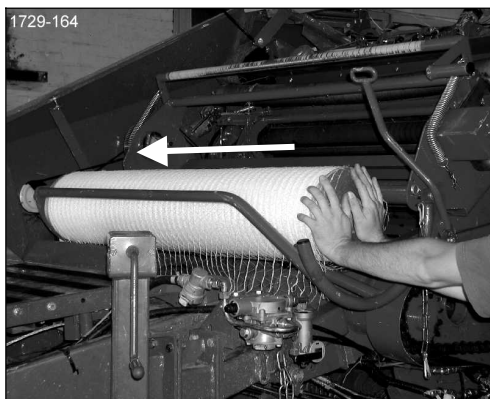

Figure 41
- ❑ (Figure 41) Slide net roll until the lock plate into the tiltable auxiliary net holder.
- (Figure 41) Insert auxiliary net roll into auxiliary net holder.